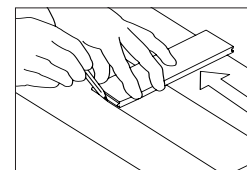

Figure 13
- Sacrificial board:** If the wall is not straight, scribe the first board (Figure 13) as necessary to maintain alignment with the chalk line. Install a sacrificial board (with a straight edge) using the appropriate fasteners for the subfloor. If a board is used for the starter row, make certain that the groove faces the wall.
- Wedges:** Align the first row with the wall using wedges to maintain a 1/2" (13 mm) expansion in place and to stabilize the product. If the wall is not straight, scribe the first board (Figure 13) as necessary to maintain alignment with the chalk line.